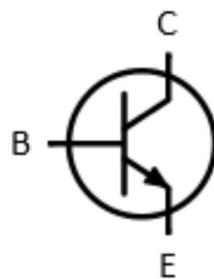

FIGURE 3-10: NPN BJT Symbol
In order to understand how phototransistors work, we will first look at a regular transistor. Transistors are three terminal devices that act as linear amplifiers, or, on a basic level, as switches. In this class, we will primarily be working with Bipolar Junction Transistors, or BJTs, shown in the figure below. BJTs have three terminals labeled base (B), collector (C), and emitter (E). The direction of the arrow points in the direction of current flow. (The symbol and operation listed in Figure 3-10 is for an NPN BJT. You may work with PNP BJTs later for your project, which have a different symbol and operation.)